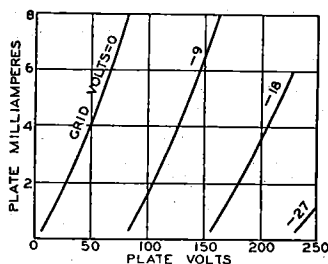
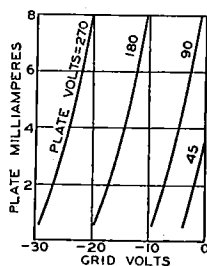

Fig. 12—Family of plate-characteristic curves.
Fig. 13—Family of transfer-characteristic curves.
**Static characteristics** may be shown by plate characteristics curves and transfer (mutual) characteristics curves. These curves present the same information, but in two different forms to increase its usefulness. The plate characteristic curve is obtained by varying plate voltage and measuring plate current for different grid-bias voltages, while the transfer-characteristic curve is obtained by varying grid-bias voltage and measuring plate current for different plate voltages. A plate-characteristic family of curves is shown in Fig. 12. Fig. 13 gives the transfer-characteristic family of curves for the same tube.